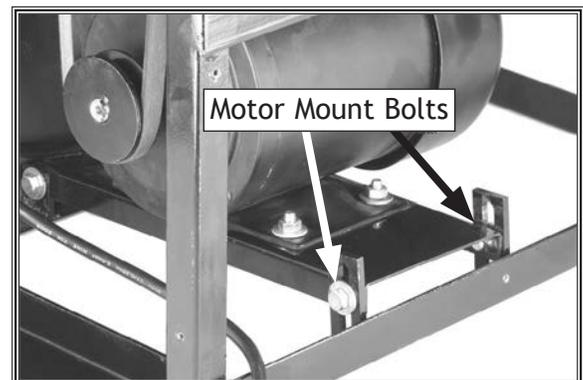

Figure 20. Belt tension adjustment. (Note: All panels removed for clarity.)
– If there is more than  $\frac{1}{2}$ "- $\frac{3}{4}$ " deflection, loosen the motor mount bolts (see Figure 20) and adjust the motor bracket, to achieve the correct tension.